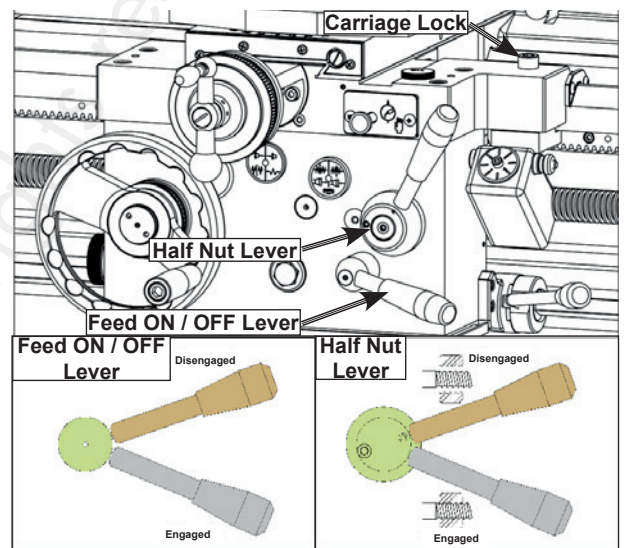

Fig. 25 Half nut and carriage feed levers shown in the disengaged positions
6. Pull up on the half nut and the feed levers to disengage the carriage, and make sure the carriage lock is loosen. (Figure 25)